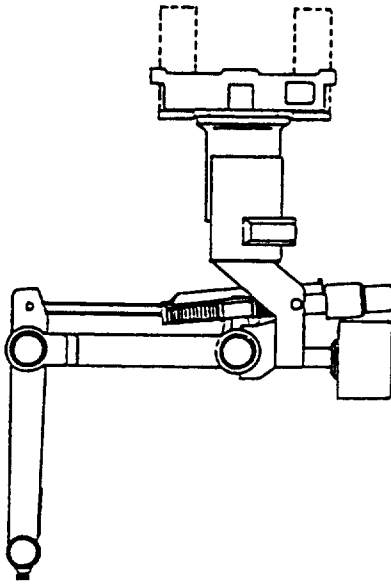

Figure 2-10
6. The robot is then hung by its base (alternatively the flange near the base) from the fork of the fork-lift. See Figure 2-10.